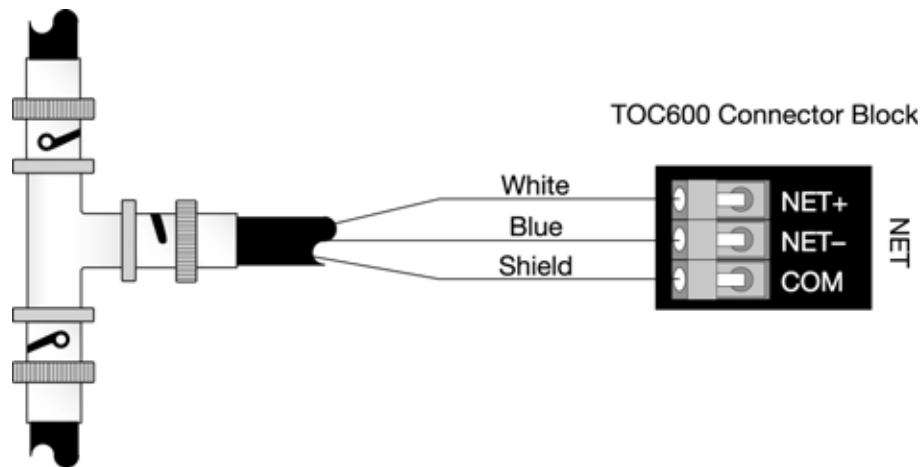

Fig 3-6 : Sensor NET Port Connections
- 5) Make the necessary connections to the analyzer's **NET** port as shown in Figure 3-6.